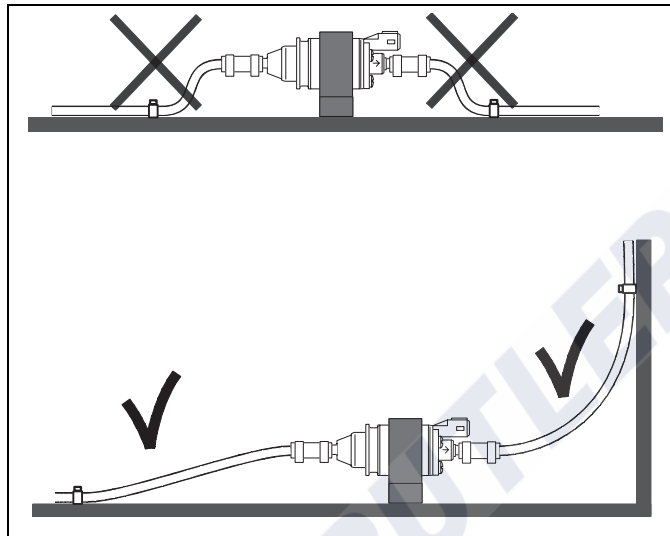

Fig. 20: Fuel line mounting
- Fuel line mounting on wall (see Figure 20, top view) should not be too close to the metering pump.